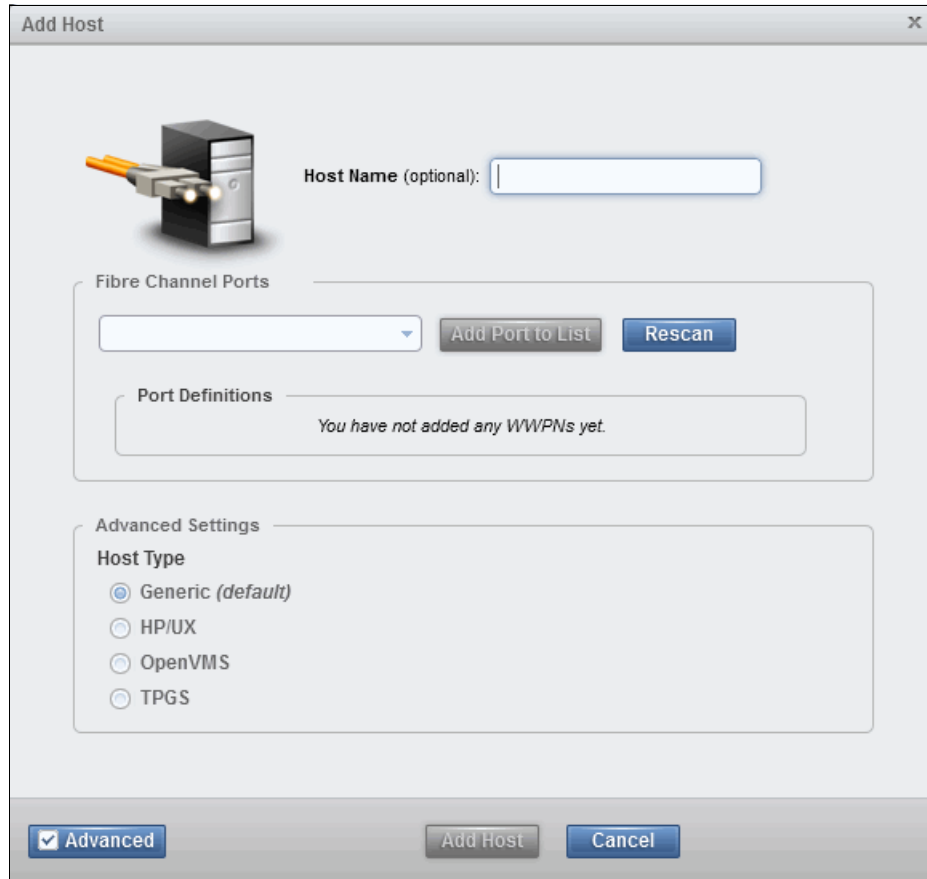

Figure 4-34 The FC host configuration wizard
1. Click **Fibre Channel Host**. The Fibre Channel host configuration wizard opens, as shown in Figure 4-34.